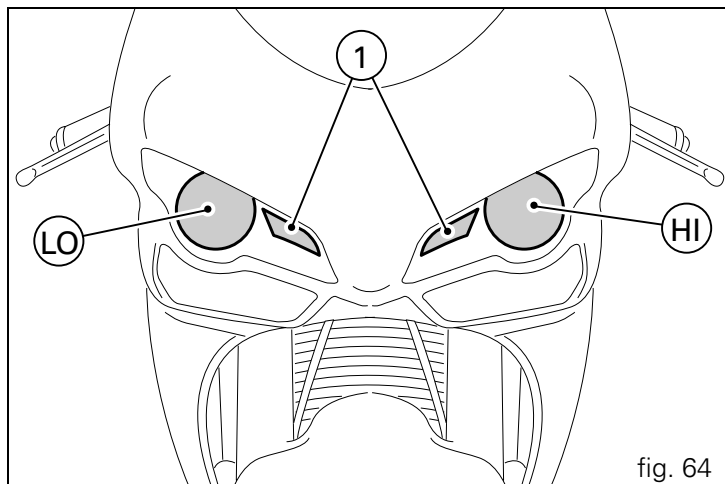

fig. 64
Before replacing a burnt-out bulb, make sure that the new one matches the voltage and wattage specifications in the "Electrical System" paragraph on page 103. Always check that the new bulb works before refitting removed parts; fig. 64 shows the position of the low beam (LO), high beam (HI) and side light (1) bulbs.